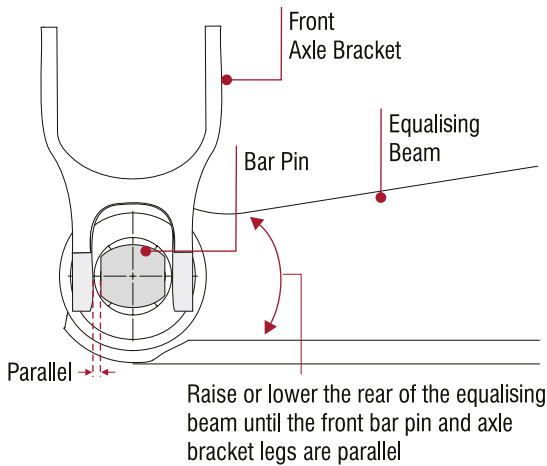
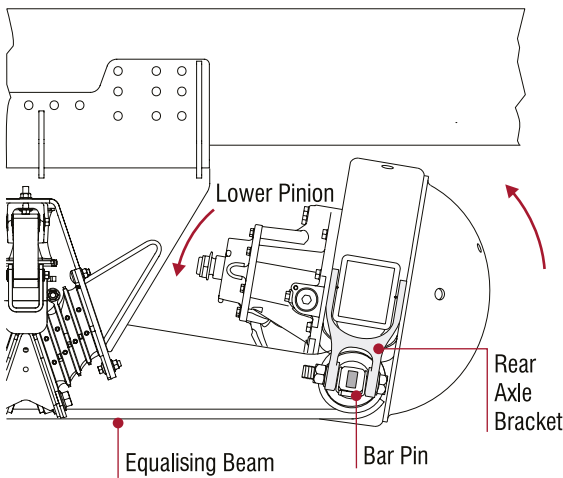

Figure 30: Front Equalising Beam Axle Bracket
Figure 31: Rear Equalising Beam Axle Bracket
5. Lower the rear drive pinion until the axle bracket legs are parallel to the rear bar pin flats, refer Figure 30 and Figure 31.